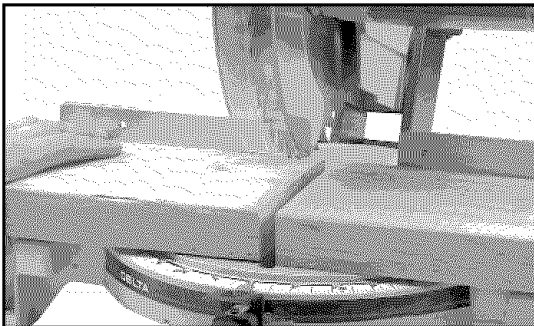

Fig. 30C
2. A standard 2 x 6 can be cut in the 90 degree straight cut-off position in one pass (Fig. 30C).